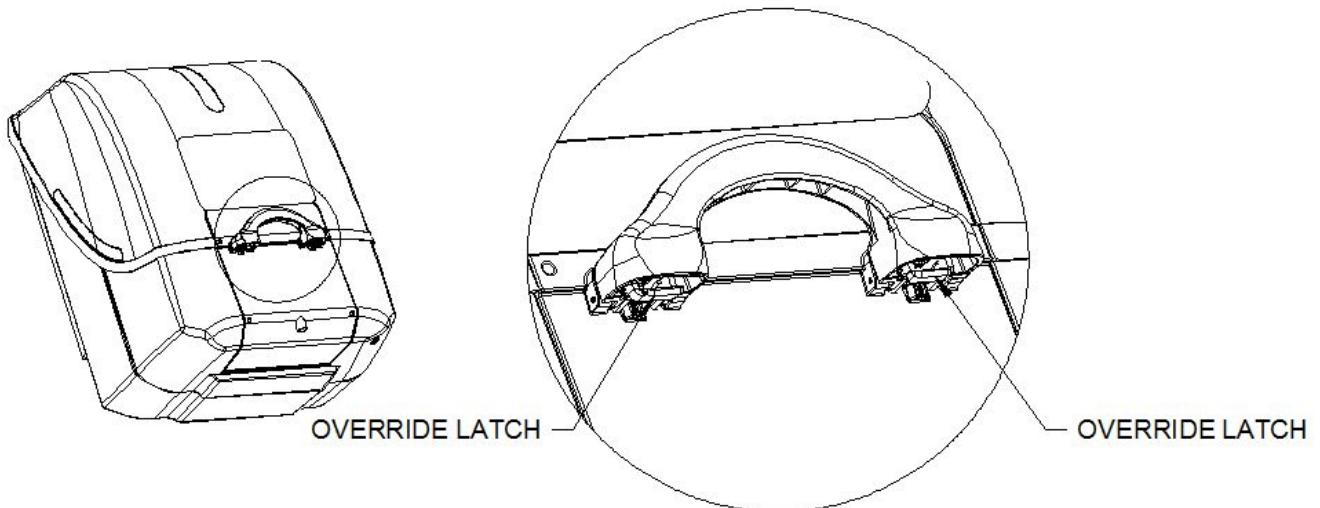

Figure 1
1. To open the Nozzle Assembly, open Tray Assembly utilizing the Supervisory Override Latch. Override Latches are located on underside of handle (Ref Figure 1). Both latches must be depressed to allow tray to open.